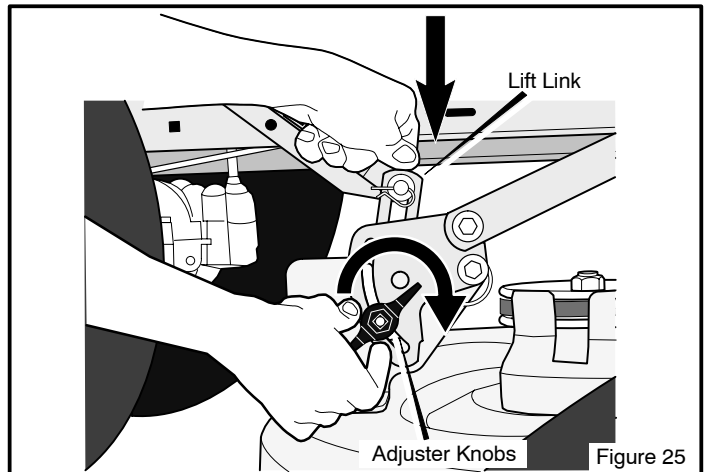

Figure 25
6. Loosen the left and right **adjuster knobs** (Figure 25). Push down on each side of the mower housing. Make sure both sides of the mower housing are setting on a flat surface. Also, make sure the lift links are loose and can easily move up or down.
7. Push down on the **lift links** and tighten the left and right **adjuster knobs** (Figure 25). Make sure the **adjuster knobs** are tight. If necessary, use a wrench to tighten the **adjuster knobs**. Tighten to a torque of 10 foot pounds (13,5 N-m).